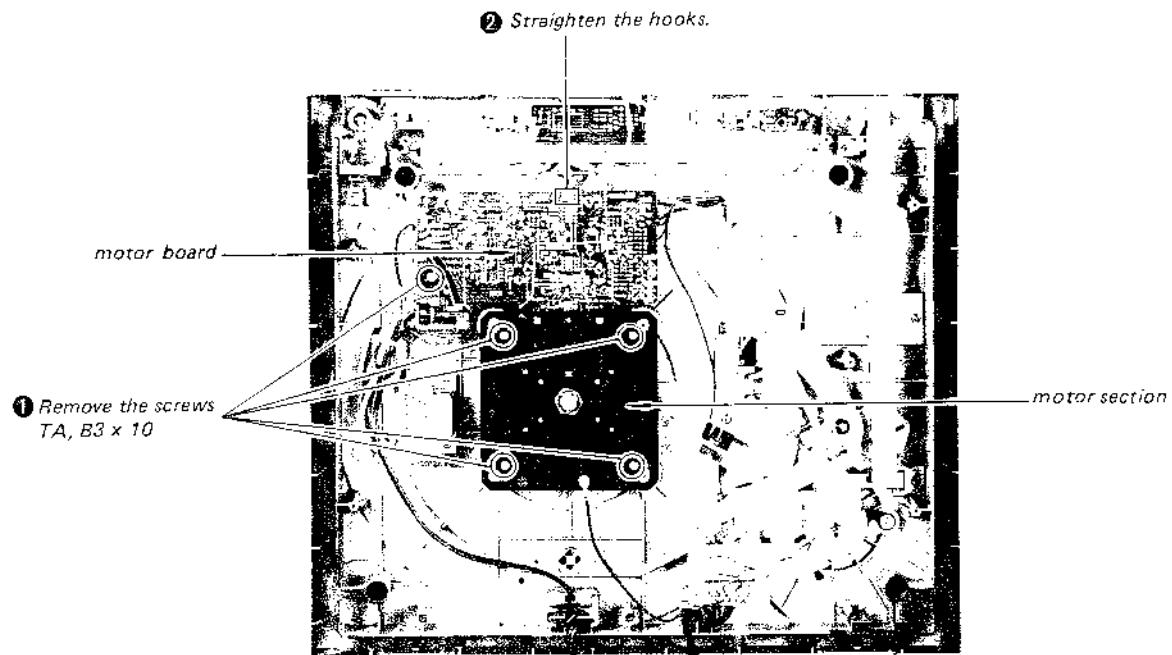

Fig. 2-4
1. Remove the screws marked ① in Fig. 2-4 and then perform ②.